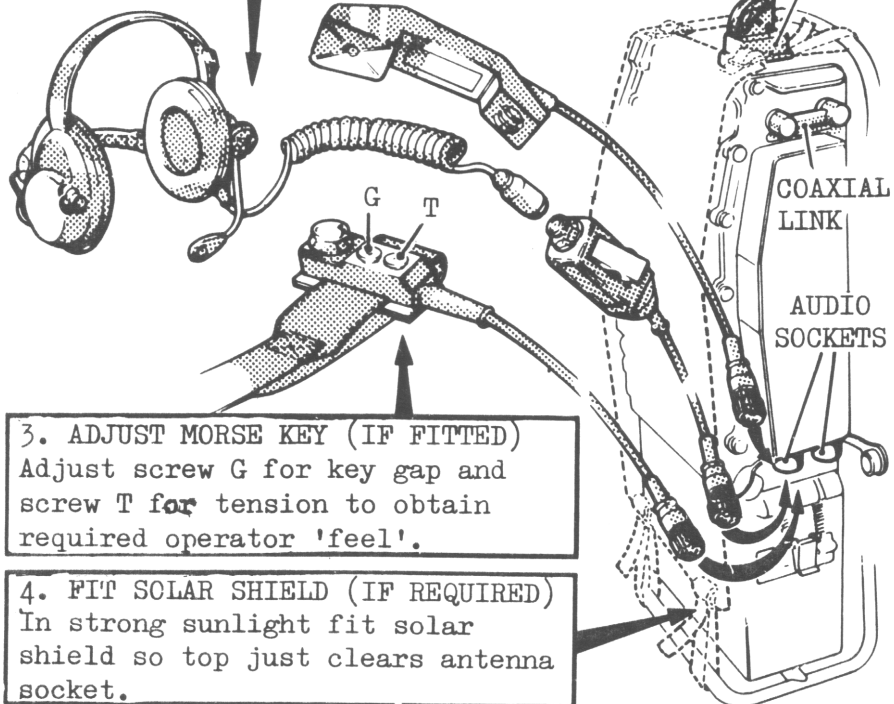

Fig.5 Assembling Manpack
2.4 Assembling manpack. Proceed as shown in Fig.5